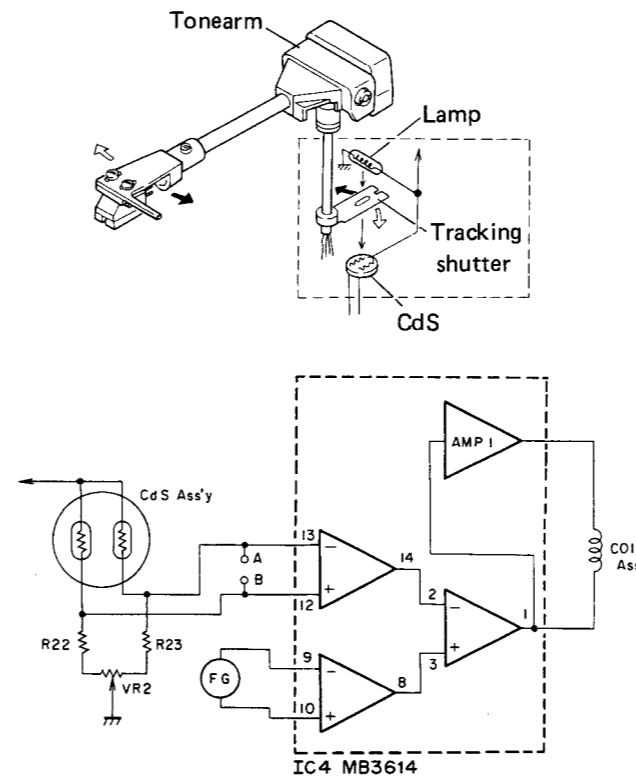

Fig. 4-2 Tonearm drive outline
1. The drive circuit diagram is outlined in Fig. 4-2. The major components in this circuit are the differential amplifier and AMP1.
1. The structure of the tracking sensor stage is outlined in Fig. 4-2. The major component circuit is the bridge including two CdS elements, R22, R23 and VR2. VR2 is used to adjust the potential difference between A and B to zero when the stylus and carrier are at right angles to each other.